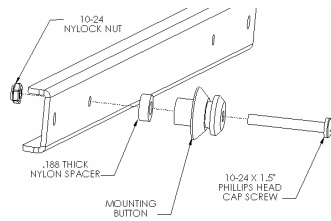
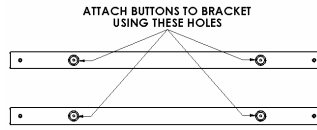

Figure 2
Figure 3
1. Using a 10-24 phillips head cap screw, thin nylon spacer and nylock nut, secure mounting button to top and bottom brackets (four places) (see Figure 2 & Figure 3).